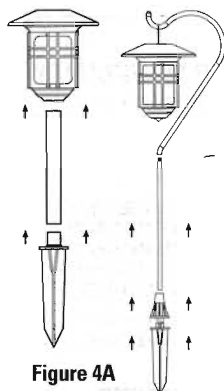

Figure 4A
- Prepare for In-Ground Installation:** Push (or twist) riser into bottom of globe/cage assembly (Figure 4A). Push (or screw) on ground stake.